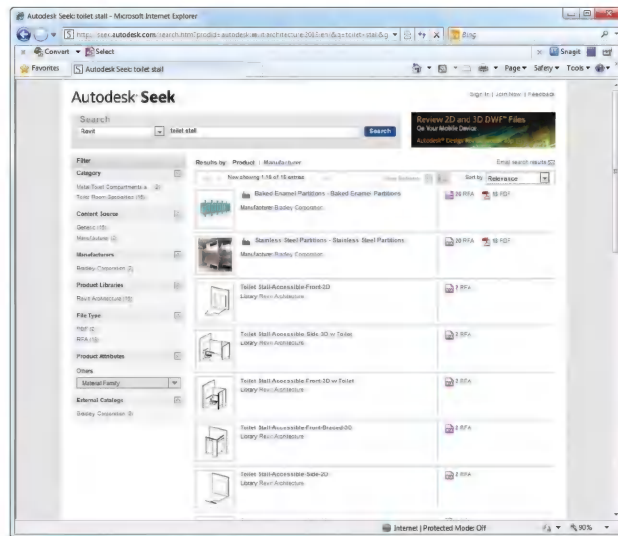

FIGURE 11-1.1 Toilet stalls online
**Figure 11-1.1** shows an example of the various families available for Toilet Stalls on the Autodesk SEEK website.